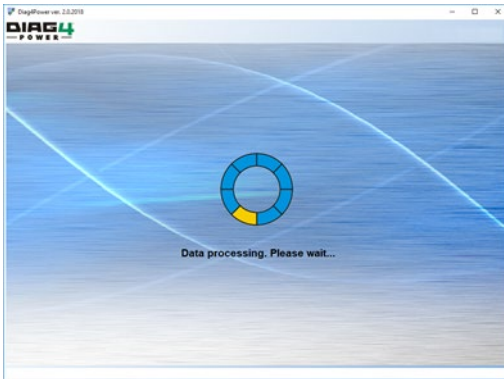

Fig. 17 – Data processing
- Immediately after this symbol is displayed, the operator must simultaneously disengage the clutch of the engine and close the throttle to the idle position (accelerator kept to a minimum). It is necessary to maintain this status until the end of the deceleration measurement when processing of the measured data is being displayed (see Fig. 17).